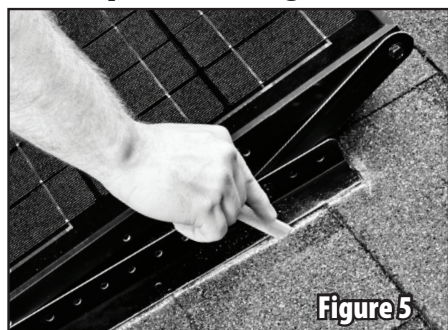

Figure 5
3. Once panel placement is determined, mark edges of mounting brackets to locate position. See figure 5.